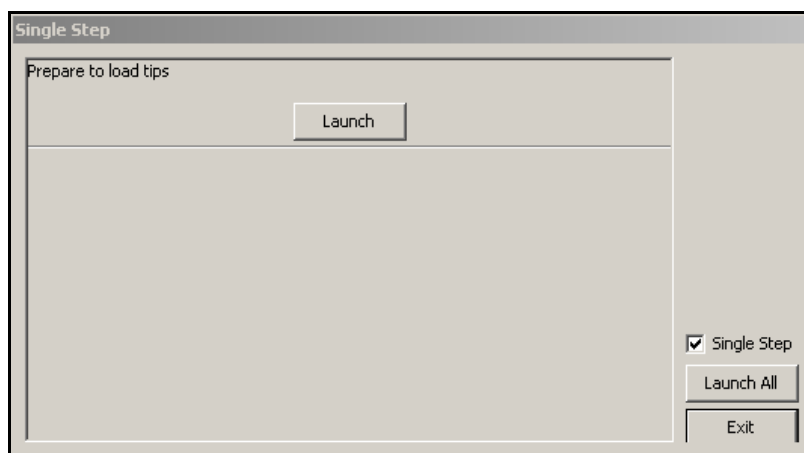

Figure 6-18. Single Step with specific operations displayed
2. While Single Step is still open, choose **Execution>Run** from the greyed-out toolbar. Single Step with specific operations displayed appears (Figure 6-18). If you have other ALPs configured on your deck, the initialization process for them appears in Single Step.